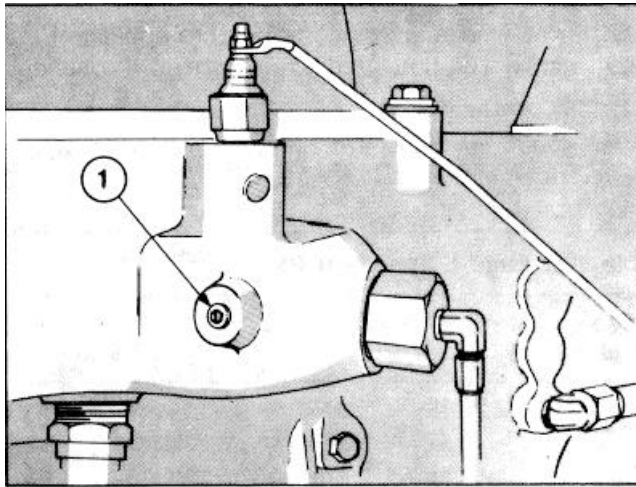

Fig 1-10 (OM1006L). Glow plug inspection hole NT-855 C.I.D. Engine
6. If the engine gives no indication of starting during the first three full strokes of the preheater pump, touch-check the intake manifold for heat. If there is no heat, check the electrical wiring. If the wiring is all right, remove the 1/8 inch pipe plug (1, Fig.1-10) from the manifold near the glow plug and